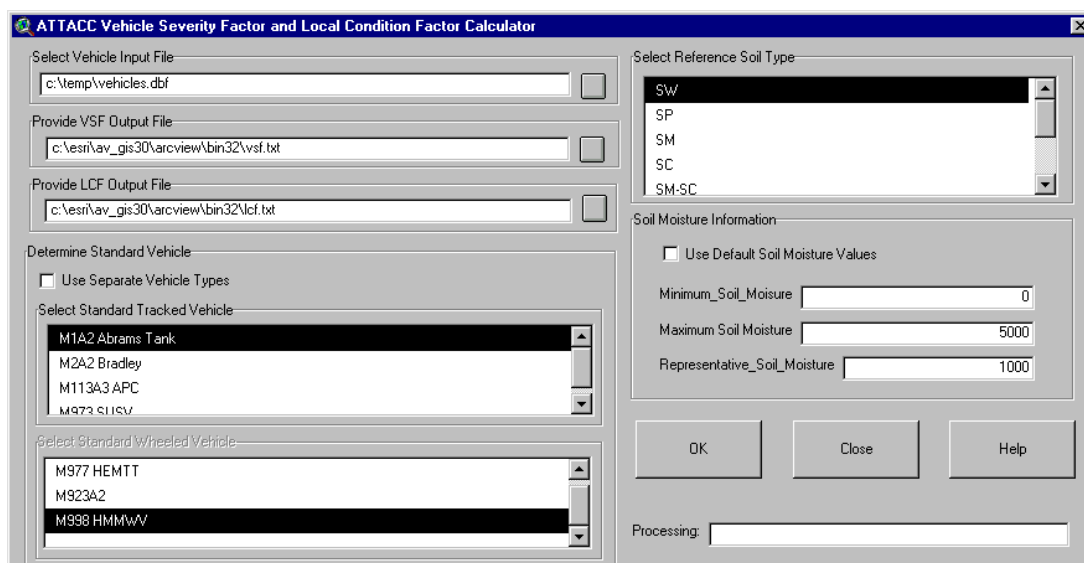

Figure 5. ArcView window showing ATTACC *<VSF/LCF Calculator>* button.
3. After loading the extension, a *<VSF/LCF Calculator>* button will appear on a project button bar (usually the row of buttons located directly below the menu bar) whenever a project is opened. The *<VSF/LCF Calculator>* button is not visible if a project is not opened. It will only be visible when the project window is the active window. To run the VSF/LCF Calculator program, press the *<VSF/LCF Calculator menu>* button, which looks like a tank. Figure 5 shows this menu button.